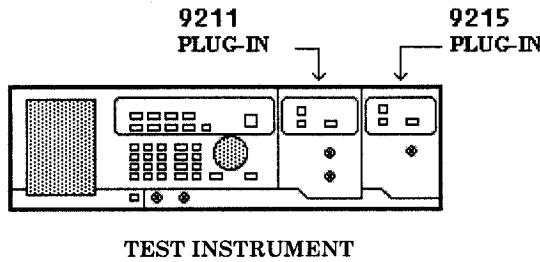

Figure 1. Test instrument configuration.
- a.** Configure TI as shown in figure 1.